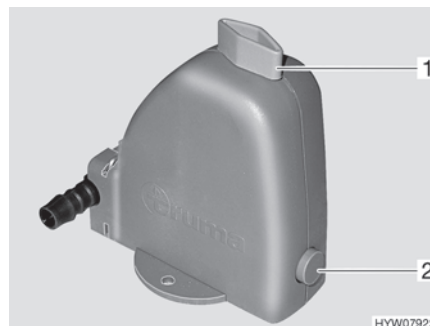

Fig. 96 Safety/drainage valve
The heater is equipped with a safety/drainage valve (Fig. 96). The safety/drainage valve prevents water for the production of hot water from freezing, when there is frost and the heater is not switched on.
- Close the safety/drainage valve. Turn the knob (Fig. 96,1) perpendicular to the safety/drainage valve and push the push button (Fig. 96,2) in.
- Open the safety/drainage valve. To do this turn the knob (Fig. 96,1) parallel to the safety/drainage valve. The push button (Fig. 96,2) jumps out. The domestic water container is emptied to the outside through the safety/drainage valve.